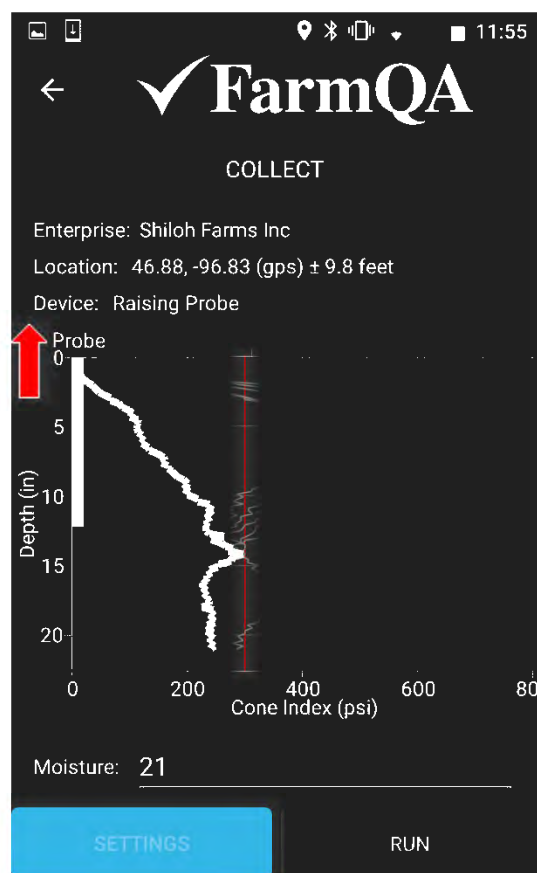

FIGURE 23
36. After several measurements have been taken, previous measurement results will be shown on the graph with thin gray lines. The number of previous measurement results shown is determined by the number entered in the "Results to Show:" field on the SETTINGS page. If "Results to Show:" is set to "0" no previous measurement results will be displayed. The purpose of showing previous measurement results is to help determine if additional samples should be taken close to the current sample point. For the case shown in **Figure 23** additional samples should be taken a few feet away since the current result is very different from previous ones. There may be an anomaly in the soil where the current sample was taken.